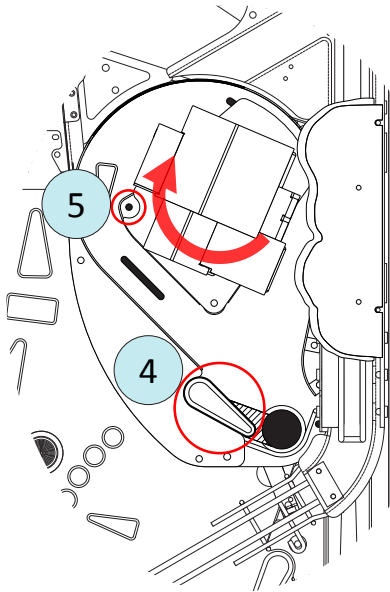

Figure E6. Munchkinland playfield removal, illustration 2.
4) Remove the mini rubber ring from the Munchkinland flipper (circled in figure E6).
5) Grasp the roof of the Munchkinland playfield's spinning house and manually rotate it (CW) until the large, open corner is aligned with the first of three screws holding the playfield down (as shown in figure E6). Using a 1/4" nutdriver or Phillips screwdriver with a long shaft, remove this screw. A magnetic pickup tool can be used to help pull the screw out of its hole.